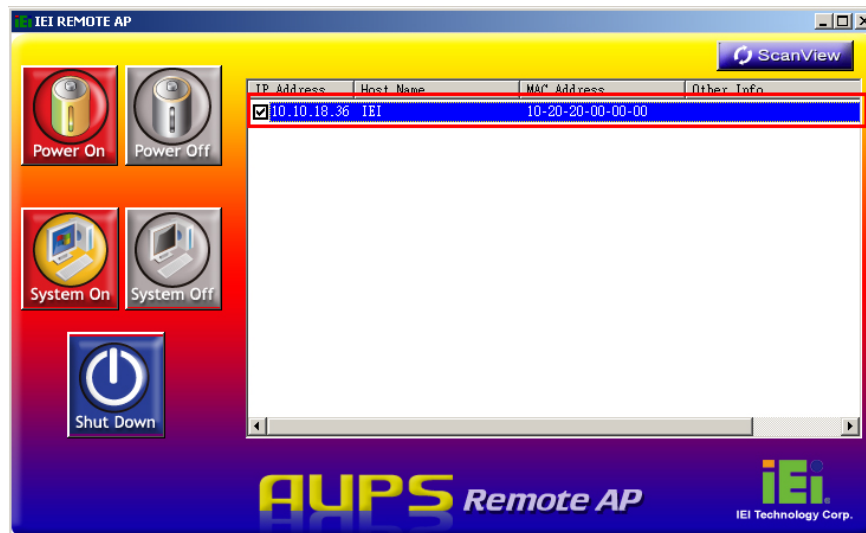

Figure 7-18: IEI REMOTE AP – IP Address
Step 4: To access the web interface for advanced monitoring and management, double click the IP address of the connected UPC-12A/GM45 (**Figure 7-18**).